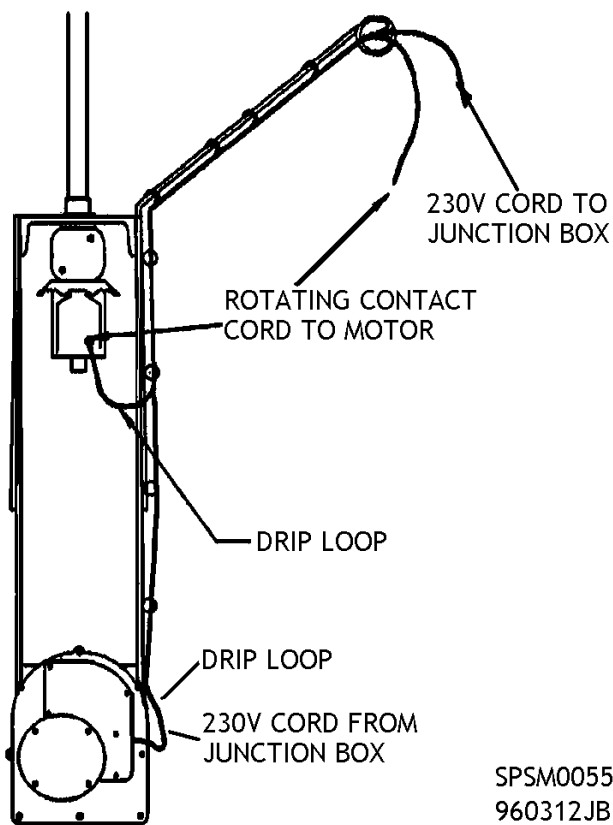

Figure 28 - Cord Placement on Center Hanger
- 71 Run cord(s) from rotating contact up center hanger and out to end of cord hanger alongside 3-wire cord from primary carriage junction box, leaving drip loop near rotating contact. **Figure 28.**